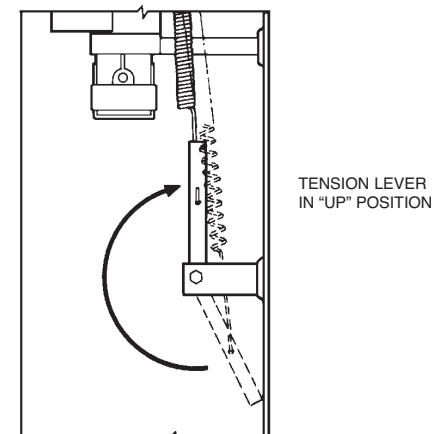

FIGURE 44
13. Make certain tension lever is in the “UP” position. See Figure 44.